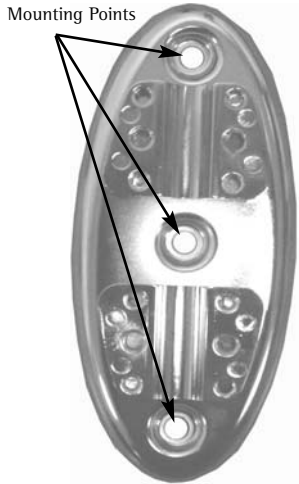

Figure 2. Flip-Down Base Installation\*
3. Mark, and then predrill the mounting holes (Figure 2). Use a 1/16” drill bit.
4. Line the FLIP Mount up with the three mounting holes and use three (3) #14 x 7/8” wood screws and attach the FLIP Mount to the underside of the cabinet (Figure 2).